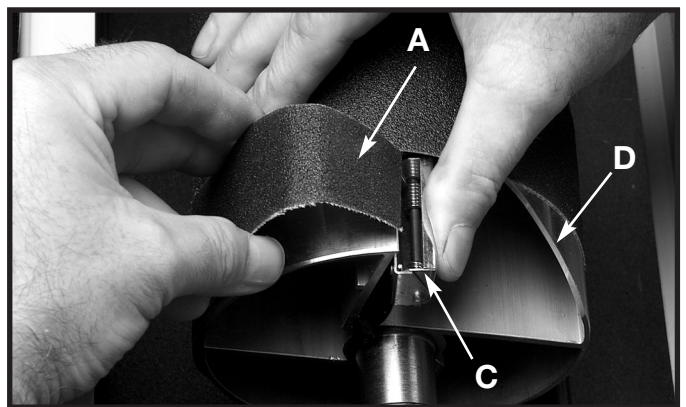
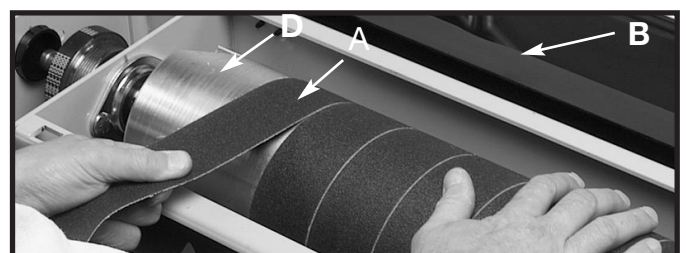

Fig. 29
Fig. 31
1. Open drum cover (B) Fig. 31 to remove the sanding belt (A) Fig. 29.
2. Press spring clips (C) Fig. 29 together and remove one end of sanding belt (A). **NOTE:** Clip must be fully depressed against the drum support.
3. Rotate the drum, (D) Fig. 31 by hand until you reach the other end spring clip. Squeeze the spring clip to open and remove the sanding belt (A).
5. Tightly wrap sanding belt (A) Fig. 31 around the drum cylinder (D), keeping each wrap close to the previous edge. **IMPORTANT: DO NOT OVERLAP THE EDGES OF THE SANDING BELT (A).** Insert the other end of the sanding belt into the left spring clip (C) Fig. 29 as tightly as possible.
6. The sanding belt will stretch during use. Periodically, press spring clip (C) Fig. 29 and reinsert stretched length into the clip.